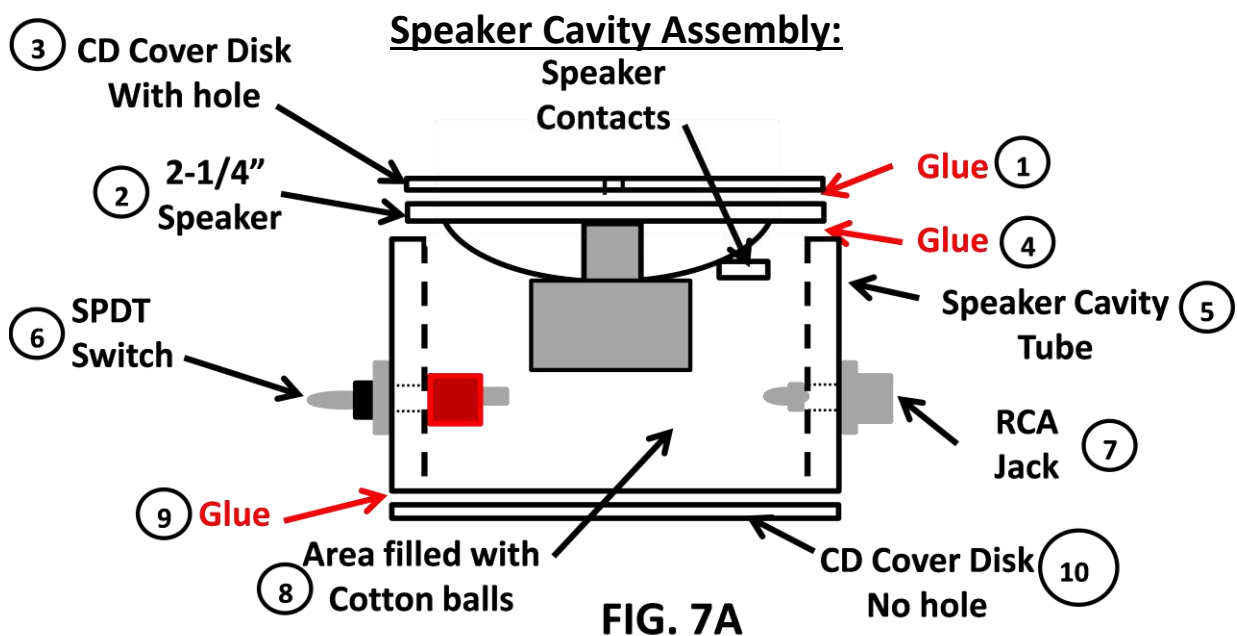

FIG. 7A
- 2 – Apply a bead of **glue** (4) around the top edge of the **“Speaker Cavity”** tube. See Figure 7A.
- 3 – Now **stuff the cotton balls** (8) in and around the speaker edges and bottom of the Speaker. Do not over stuff to where it will create a bulge in the bottom cover when it's applied. See figure 7A.
- 4 – With the **“Speaker Cavity”** in the same position, **apply a small bead of glue** (9) around the bottom edge of the **“Speaker Cavity”**, which at this time should be facing up. See Figure 7A.
- 5 – Place the **2-3/8 inch Cover Disk** (11) to the bottom edge of the **“Speaker Cavity”**. See Figure 7A.